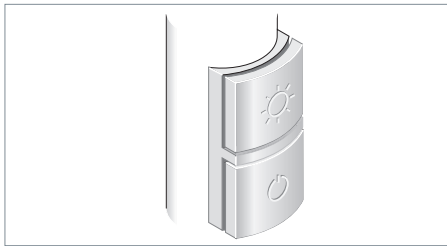

Fig. 16: Operating element with synchronously operated light (standard).
- Operating element with synchronously operated light (standard), see Fig. 16
- Press the upper or the lower switch, see Fig. 16.
- Press the lower switch, see Fig. 16.
- Press the upper switch and keep it depressed, see Fig. 16.